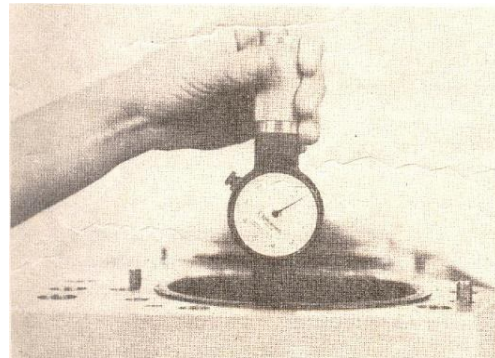

Fig. 1-6. Check the liner for out-of-round
2. Clearance between the liner and block should be as listed, but liner contact with the block is permissible as long as it does not cause liner out-of-round. Fig. 1-6